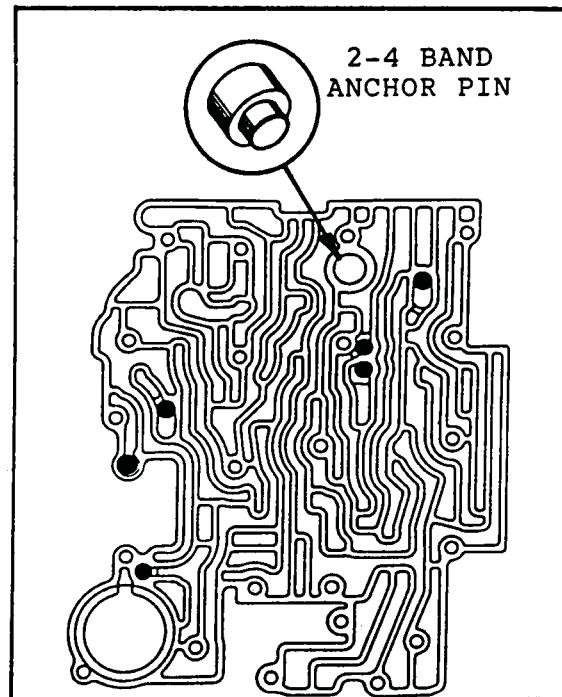

Figure 67
1. Remove the band anchor pin from the case bore (See Figure 67).